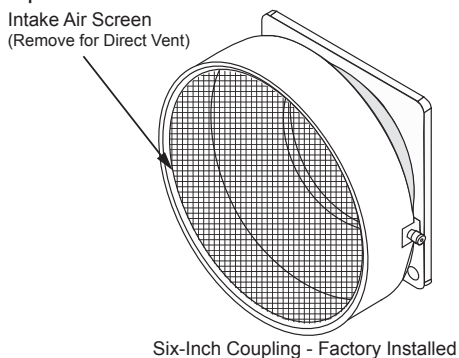

Figure 15. Intake-Air Connection Detail
11. Ensure the Intake Air Screen on the Intake Air Connection is removed before connecting the intake air pipe to the water heater. See Figure 15.